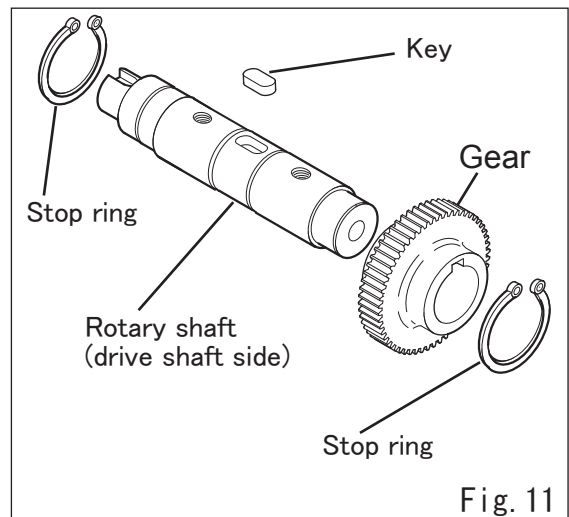

Fig. 11
- ④ Remove the stop ring and get out the gear by the press. (Fig. 11)